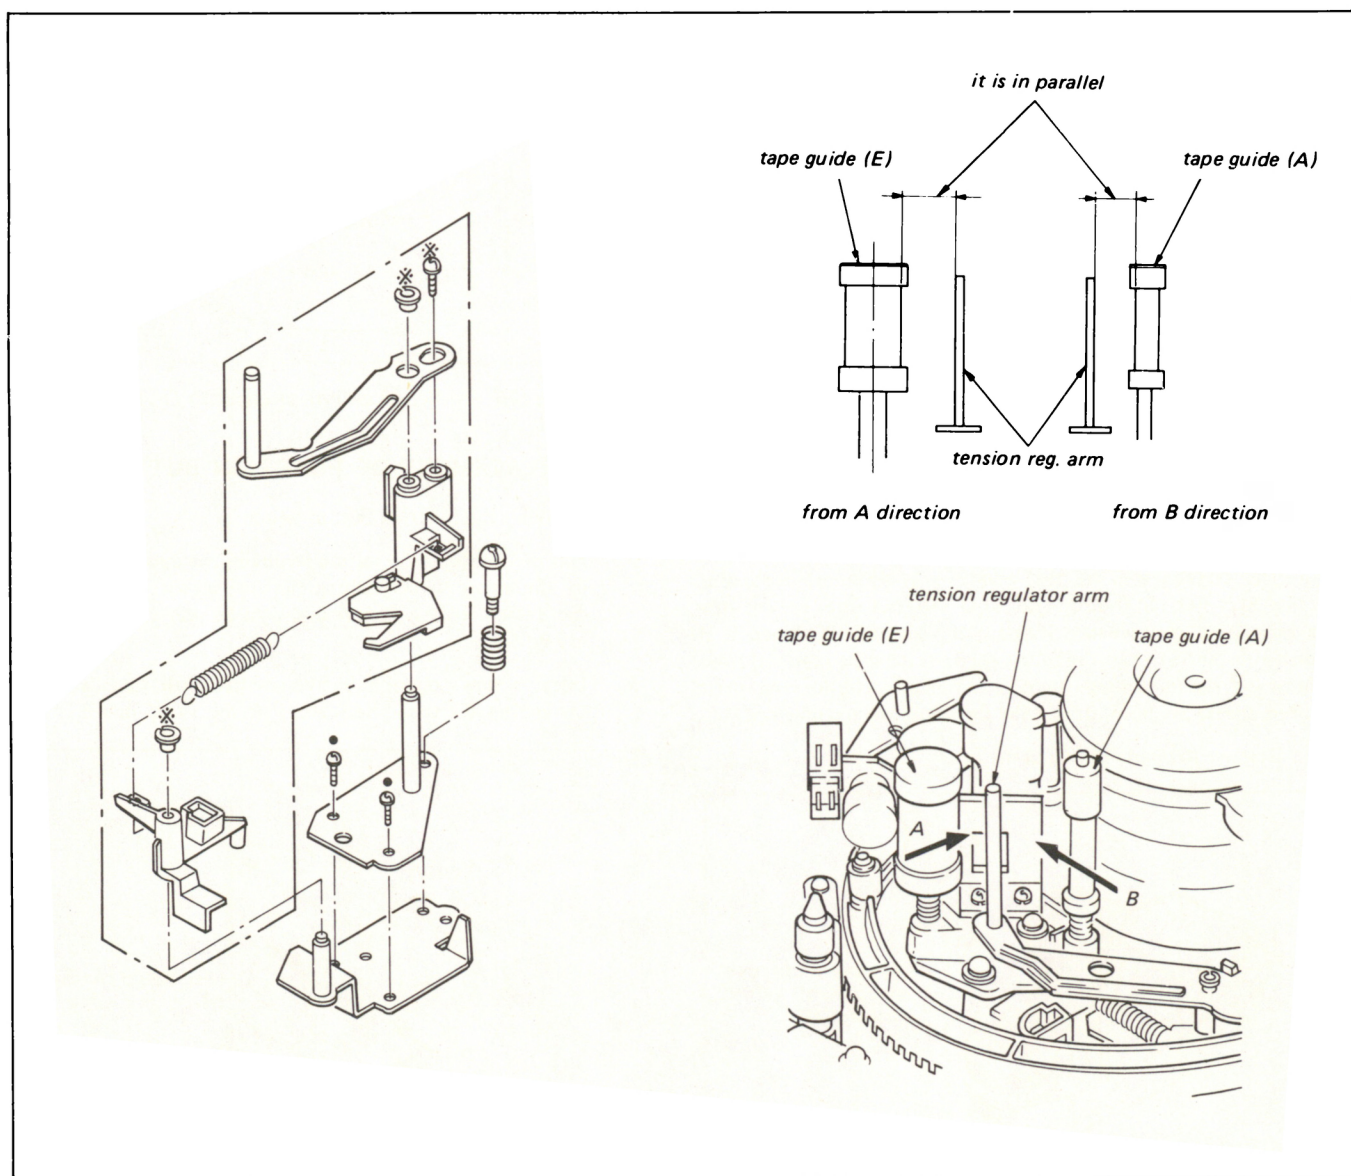

Fig. 5-7. Replacement of tension regulator arm
1. When replacing the parts that are surrounded by the dotted line of Fig. 5-7, remove screws or stop-ring shown by the \* mark in the same figure. Never try to touch the screw marked with •.
2. When replacing parts that are other than what are surrounded by the dotted line in Fig. 5-7, perform following adjustments carefully.
**Note:** This adjustment is based on the references that are tape guide, the tape guide (E) and tape guide (A) located on both neighbours of the arm. Do not touch them this adjustment is complete.
- (i) As shown in Fig. 5-7, the tension regulator should be in parallel with both tape guide (E) and tape guide (A). This is adjusted by two screws marked by •.